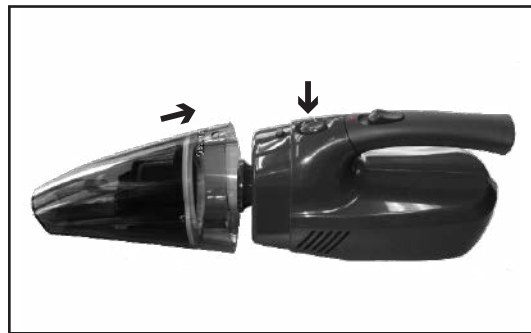

FIG.3
- Place the collection container on the motor unit again by inserting it first into the opening at the bottom, and then close it. Keep pressing the unlocking device until the collection container is locked in place (FIG.3).